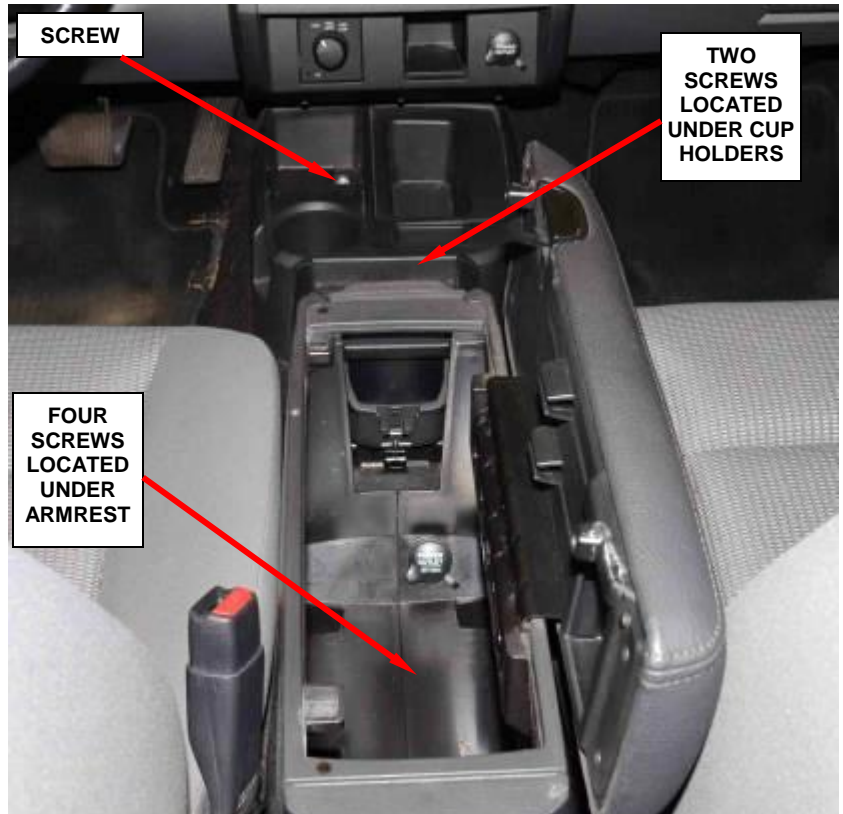

Figure 74 – Floor Console (ATX Shown)
- d. Remove the screws that secure the floor console to the floor panel (Figure 74).